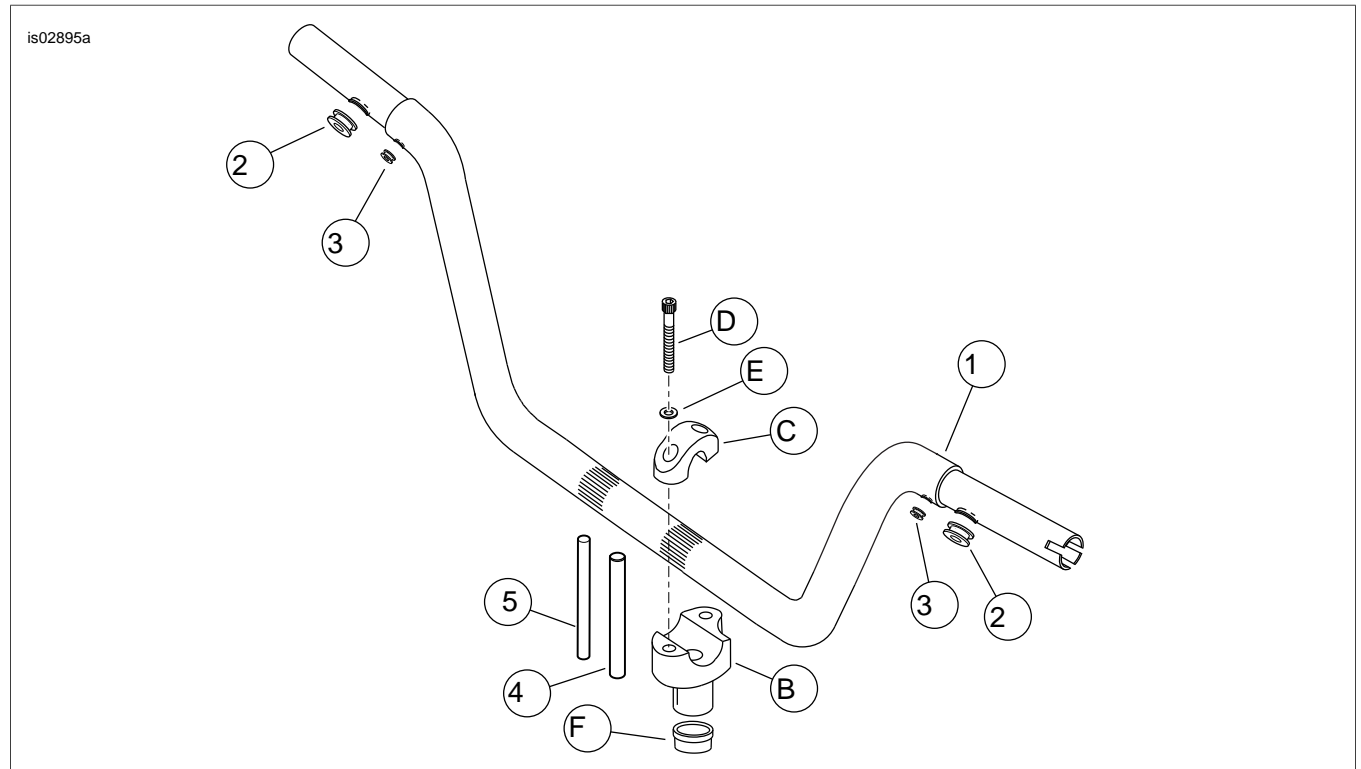

Figure 4. Service Parts
13. **For models with handlebar-mounted turn signals:** Insert the turn-signal grommets (3) into place in the turn-signal wire holes in the handlebar.
16. See Figure 4:
- b. Slide one piece of the larger diameter tubing (4) over the end of each switch-wire bundle exiting the center hole of the handlebar (1).
- c. **For models with handlebar-mounted turn signals,** slide one piece of the smaller diameter tubing (5) over the end of each turn-signal wire bundle exiting the center hole of the handlebar.
1. See Figure 4. Obtain a **new** Handlebar Riser Kit (A), purchased separately.
2. **FXSTD models only:** Obtain two Riser Mount Spacers (F), purchased separately.